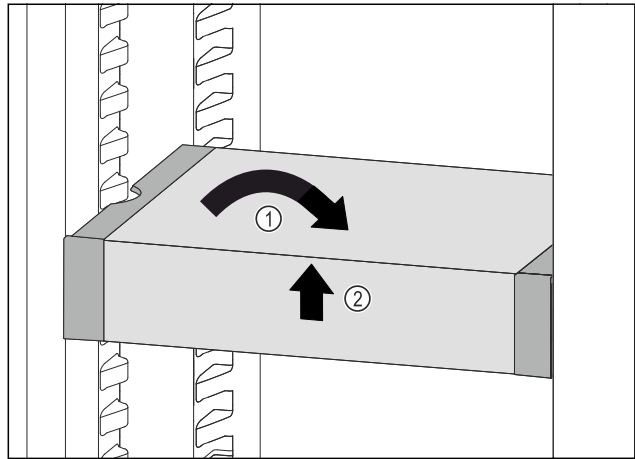

Fig. 126
- ▶ Set VarioSafe straight. *Fig. 126 (1)*
- ▶ Lift VarioSafe at the front. *Fig. 126 (2)*